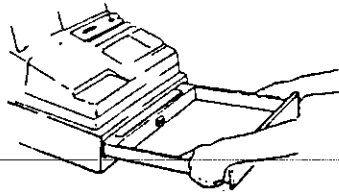

Fig. 24
3. When getting back the drawer, fit its rollers on the rails of the register and push it all the way in. (Fig.24)